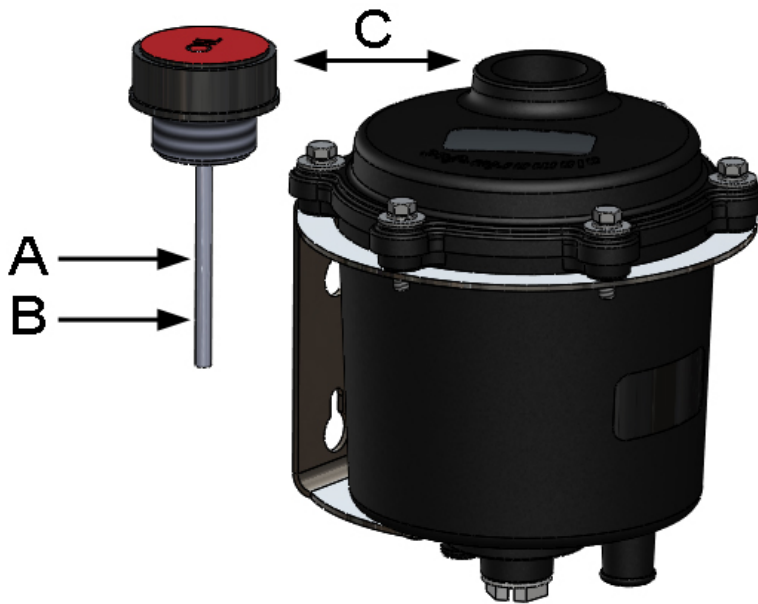
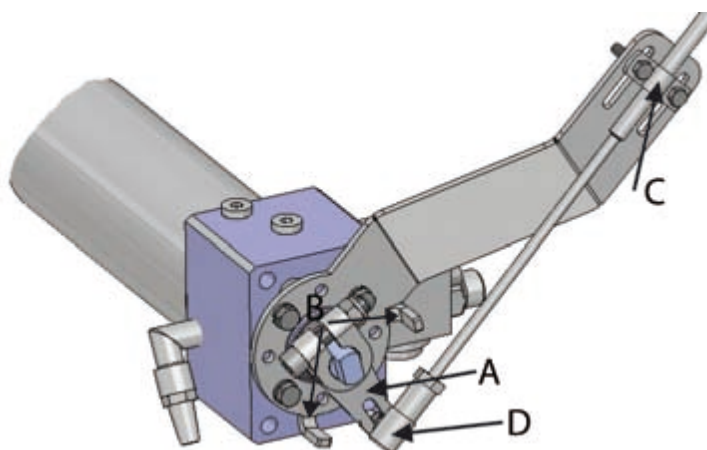

Figure 28. Checking the oil level
Figure 34. Attaching the operating lever
The system must have the right amount of oil. If it is necessary to add oil to the system, add it through the oil reservoir cap (figure 28, point C). There is a dipstick on the reservoir cap with markings for maximum and minimum oil levels (figure 28). The type of oil to use is described in appendix 2. *Oil recommendations*, page 46 .
5. Place the lever (figure 34, point A) on the operating shaft so that it lies between the limiters on the support plate (figure 34, point B).
6. Attach the control cable with a fastener (figure 34, point C) to the support plate and with an angle joint (figure 34, point D) to the lever ball screw.
Fill the reservoir with oil before you start the engine. After you start the engine and put it into forward gear, the oil is transferred from the reservoir into the system and the pump automatically removes air from the system. If the oil level decreases in the reservoir, add some oil. There is a dipstick in the reservoir that you can use to check the oil level (figure 28). Occasionally move the hydraulic cylinder's operating lever back and forth (figure 34, point A) so that the cylinder fills with oil.